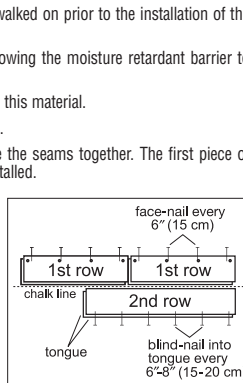

Figure 8
- Use a pneumatic brad nailer to face-nail the groove side 1/2" (13 mm) from the edge of the wall at 6" (15 cm) intervals and 1"-2" (2.5-5 cm) from each end, then face-nail at a 45° angle-down through the nailing "pocket" on top of the tongue (Figure 8). OR pre-drill the nail holes 1/2" (13 mm) from the back (groove) edge, 1"-2" (2.5-5 cm) from each end, and at 6" (15 cm) intervals. Pre-drill at the same intervals at a 45° angle down through the nailing "pocket" on top of the tongue (Figure 8). Face-nail the groove side where pre-drilled. When complete, blind-nail at a 45° angle through the tongue of the first row. Fasten using 4 or 6d nails. Countersink nails to ensure flush engagement of the groove. Avoid bruising the hardwood by using a nail set to countersink the nails. Continue blind-nailing using this method with following rows until the stapler can be used.